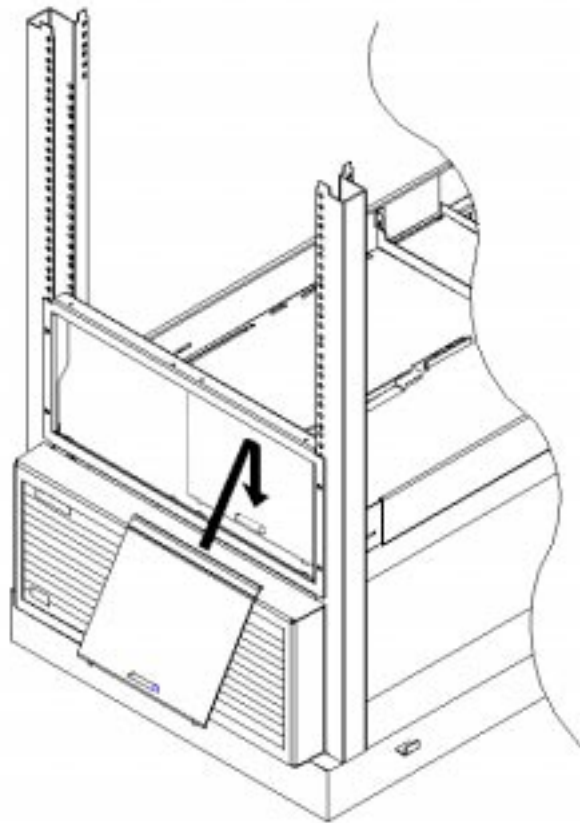

FIGURE 1-6 Filler Panel Installation
6. **Decide on the location for the Autoloader. If you are installing one Autoloader, you will insert the filler panel on the opposite side of the support bezel (FIGURE 1-6).**